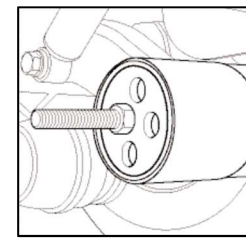

Fig. 18
3. Fit the bush tool on the trailing arm as shown in Fig. 18.